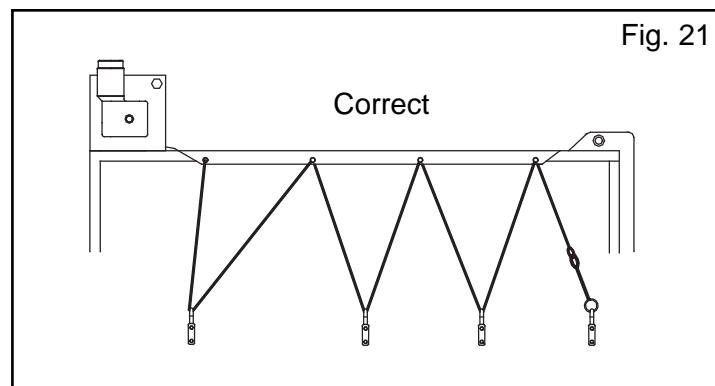

Fig. 21
- Position last hook at the end of the box (Fig.21).